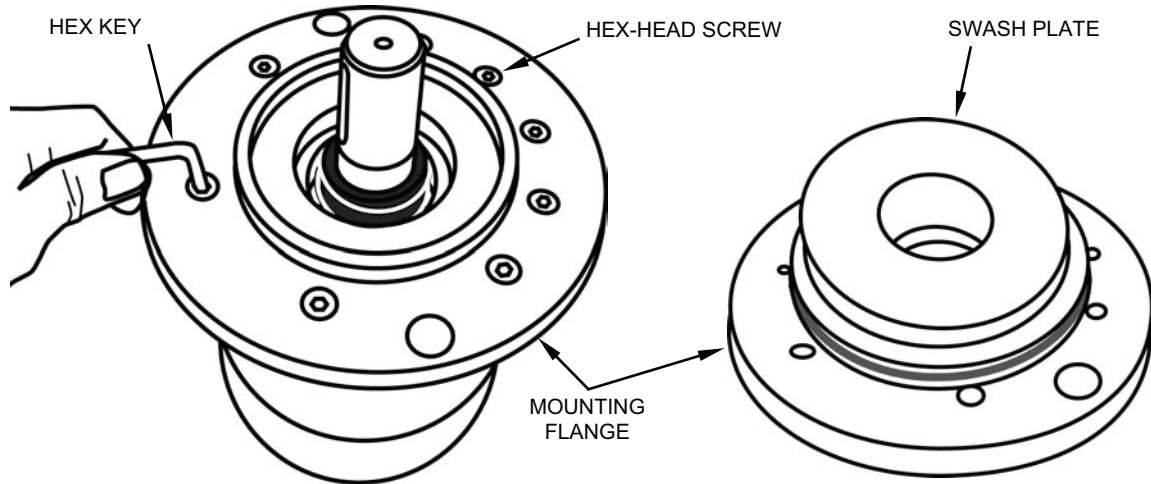

Figure 22. Removing Hex-Head Screws from Mounting Flange.
- e. Remove the eight hex-head screws from the mounting flange (see Figure 22).